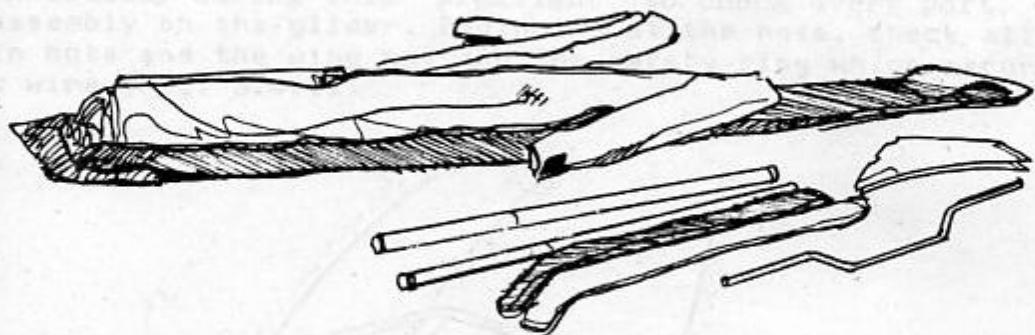

Fig. 3.3.3.
3. Unfold the free part of the bag. Spread the leading edges slightly (Fig. 3.3.3).